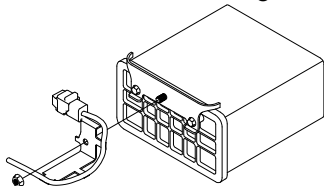

Figure A5
- 9. Un-attach wiring bracket.** Locate the fuel vapor canister box mounted just under the front bed cross member on the driver's side of the truck. Remove the nut holding the wiring bracket to the back of the box. This will be relocated later, see figure A5.